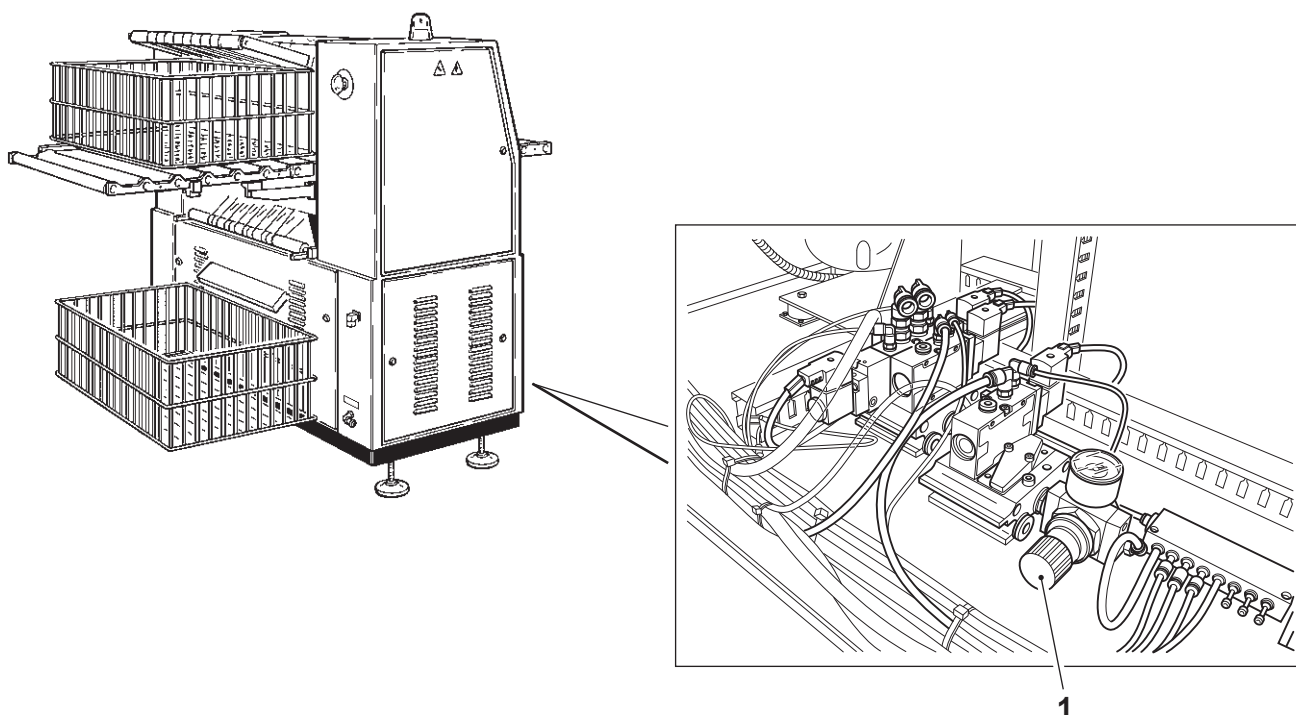

Fig. 203 REGOLATORE GETTI D'ARIA GODRONE
- Assicurarsi che la pressione dei getti d'aria in uscita sia regolata su 6 kg./cm² (vedi regolatore pos. 1 - fig. 203).
- the pressure of the air jets (12) by means of the proper pressure regulator (pos. 14 - pict. 202);
- the pressure of the knurling rollers (13) by means of the proper pressure regulator (pos. 15 - pict. 204);
- Make sure that the output air jets pressure is regulated at 6 kg/cm² (see regulator pos. 1 - pict. 203)